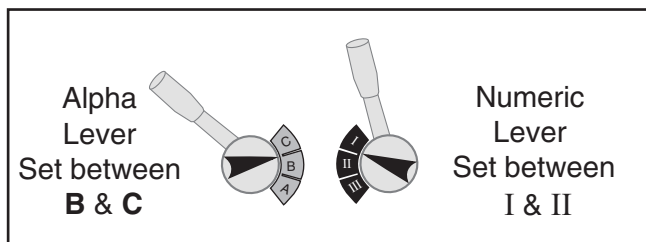

Figure 114. Spindle speed levers set to neutral.
3. Remove chuck, then shift spindle to neutral by positioning alpha spindle speed lever between **C** and **B** and numeric spindle speed lever between the **I** and **II**, as shown in **Figure 114**.